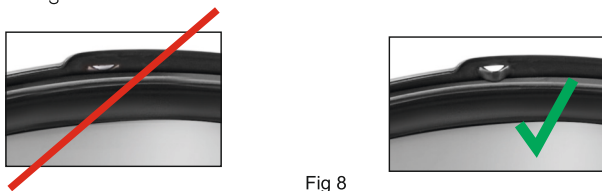

Fig 8
- Before closing the cookers lid, make sure to check the main gasket and place it inside the lid in the correct position (Fig 8). Also, check that the pot mouth parts are clean, pressure valves and safety systems are clean and working.